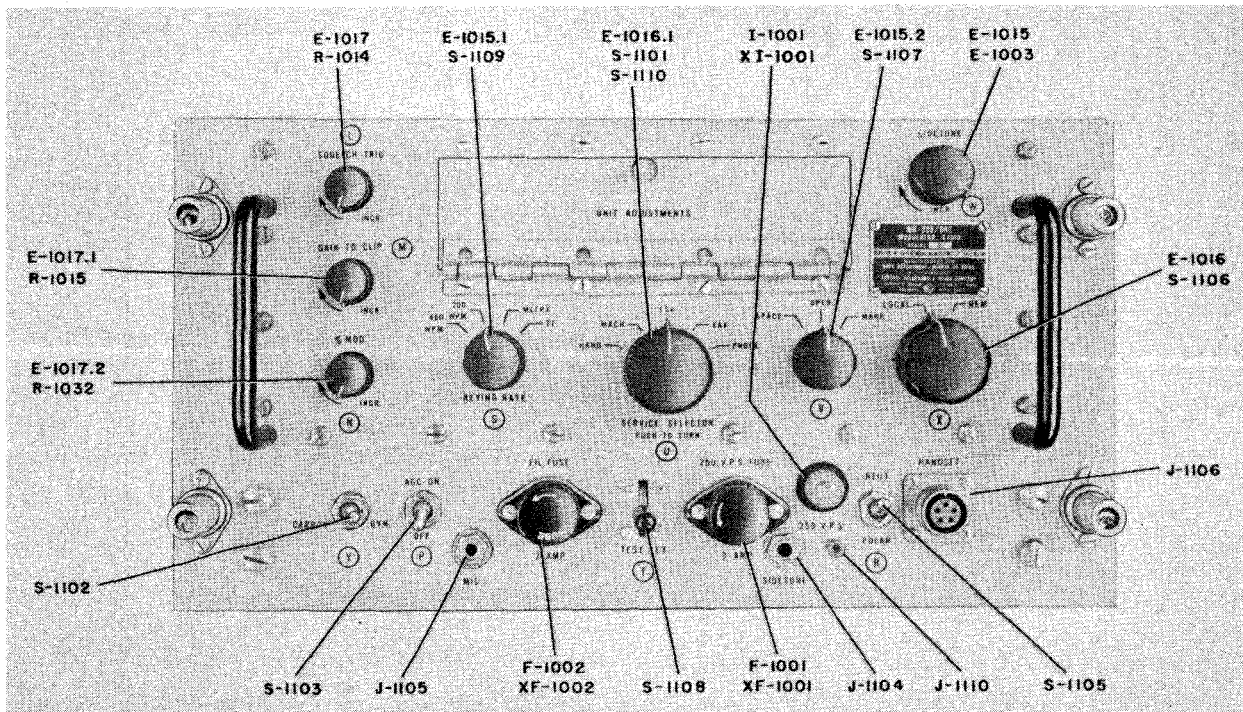

Figure 7-62. Radio Modulator MD-229/SRT (LLRM), Front Panel
Step 1. Place the equipment in stand-by condition, switch (PP) in STANDBY.
Step 2. Connect meter (ME-25A/U, or equivalent) to either the 250 V.P.S. test jack provided on the LLRM front panel (J-1110), figure 7-62, or at the RFO test point socket, E-2919 (on the left side of the RFO drawer; see figure 7-6).
2. -12-VOLT SUPPLY.—There are no electrical adjustments for the -12-volt supply. The output of this supply may be checked by connecting a meter (ME-25A/U, or equivalent) between pin D of HAND-SET jack J-1106 (on LLRM front panel, figure 7-62) and chassis ground.